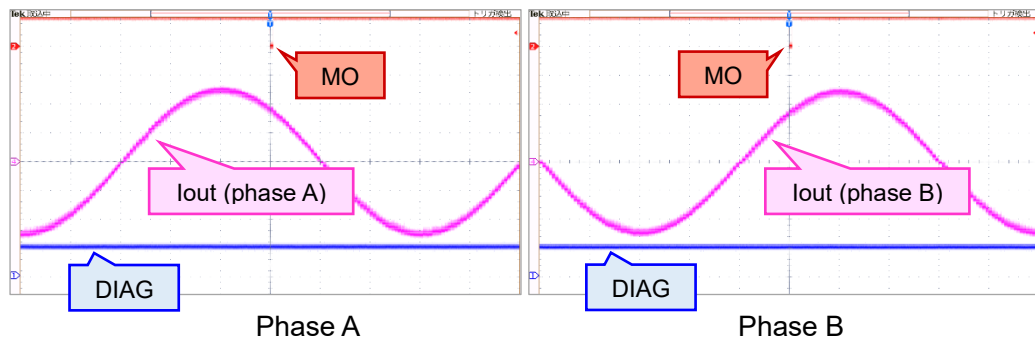

Figure 1. Output current waveform example of 8W1-2-phase excitation (for reference)
- Figure 1 shows an example of an output current waveform for 8W1-2-phase excitation, which has the highest resolution.